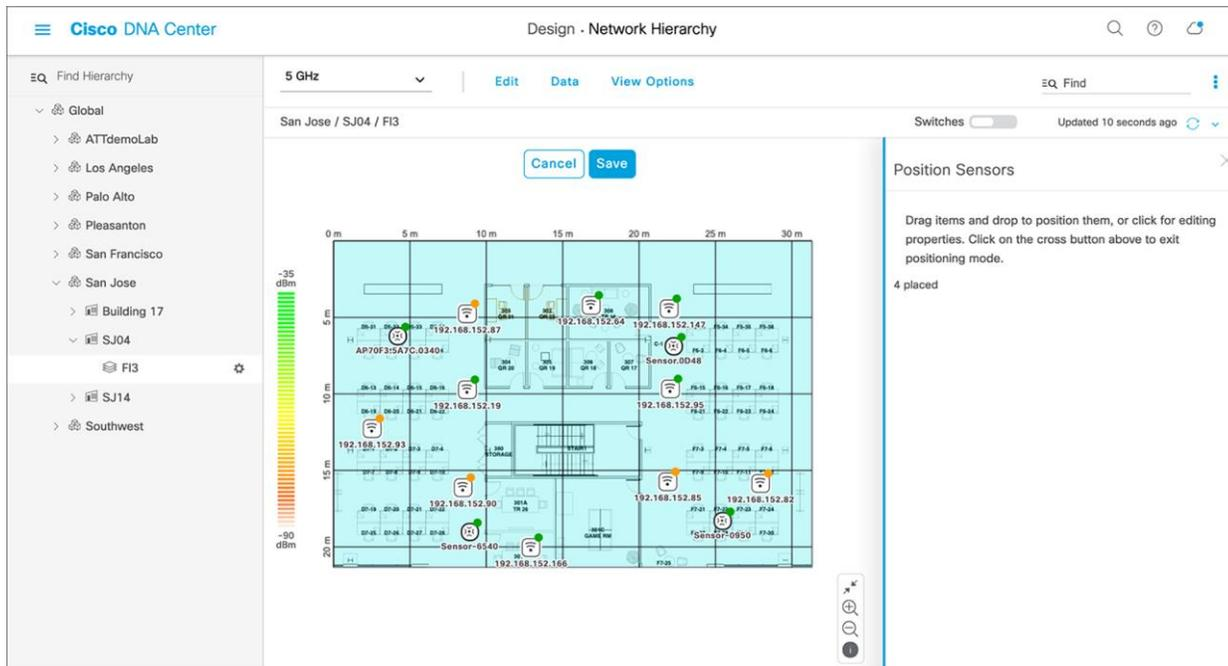

Figure 62.
1. Open the hamburger menu and click Design > Network Hierarchy, then click the desired floor and click **Edit (Figure 62)**.
2. You can drag and drop sensors from the upper right corner of the map to their current placement and click Save to apply the changes to the map (**Figure 62**).